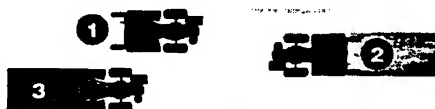

Fig. 4-8
- If the garden size will not permit lengthwise and then crosswise tilling, then overlap the first passes by one-half a tiller width, followed by successive passes at one-quarter width (see Fig. 4-8).